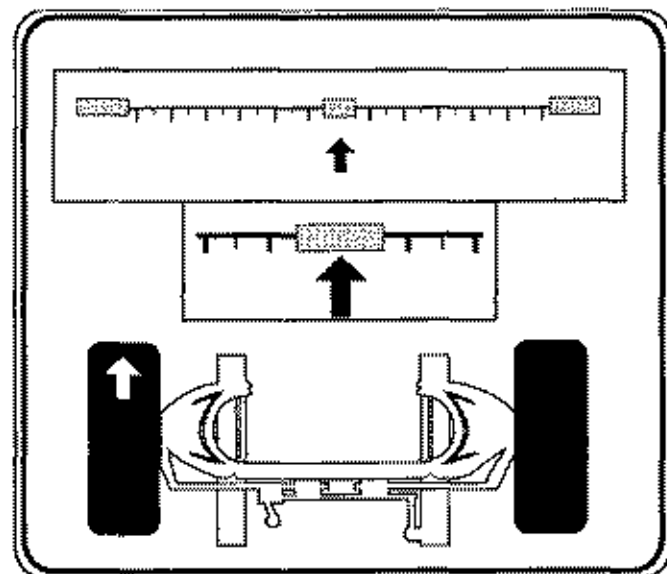

Figure 2-15
- An arrow then appears on the left wheel of the picture at the bottom of the screen, indicating the left wheel should be centered. Turn the steering wheel to the left until the arrow under the meter enters the center range bar. When the arrow moves into the acceptable range, a close-up view of the arrow and range bar appears directly below the caster swing meter (see Figure 2-15). Turn the wheel until the arrow in the lower meter is within the highlighted range. Wait while the computer takes readings.